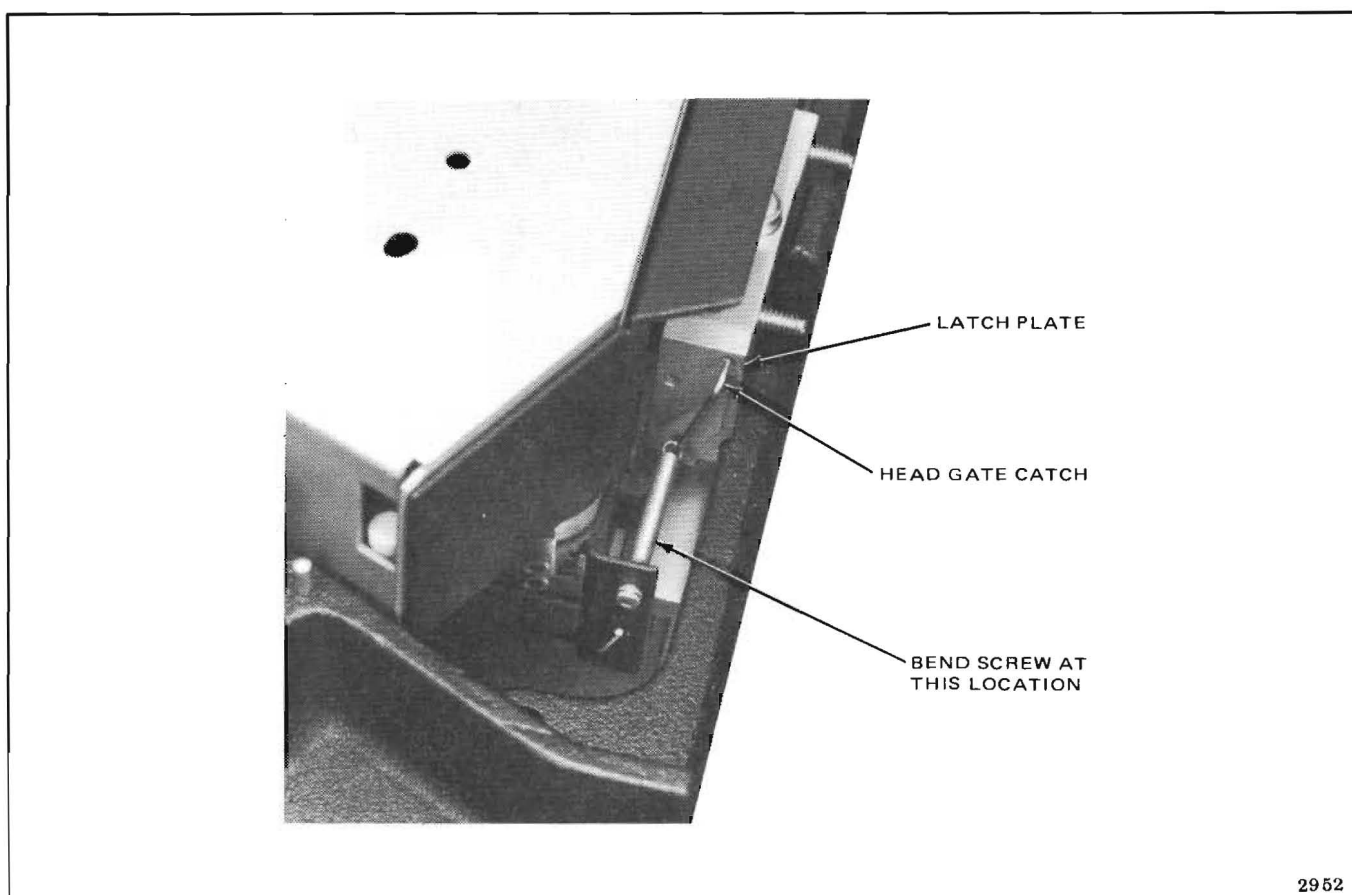

Figure 5-32. Head Gate in Unlatched (Up) Position
the head gate is in the unlatched (up) position, the free end of the wire catch must nearly contact the face of the latch plate at the location shown in Figure 5-32. Align the wire head gate catch as follows:
2. With the aid of a long-nose pliers, slightly bend screw through spring at location shown in Figure 5-32, left or right, as required, so that wire catch rests at location shown (Figure 5-32) when gate is in the unlatched (up) position.